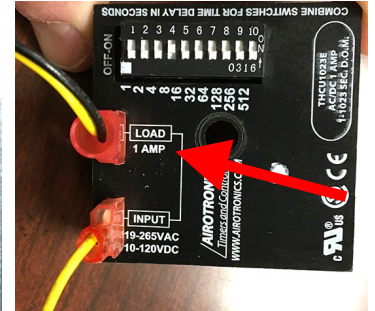

Figure 21
24. Connect the yellow and black wire from the 8-pin connector to the #1 (LOAD) connector on the time delay relay (see Figure 21).